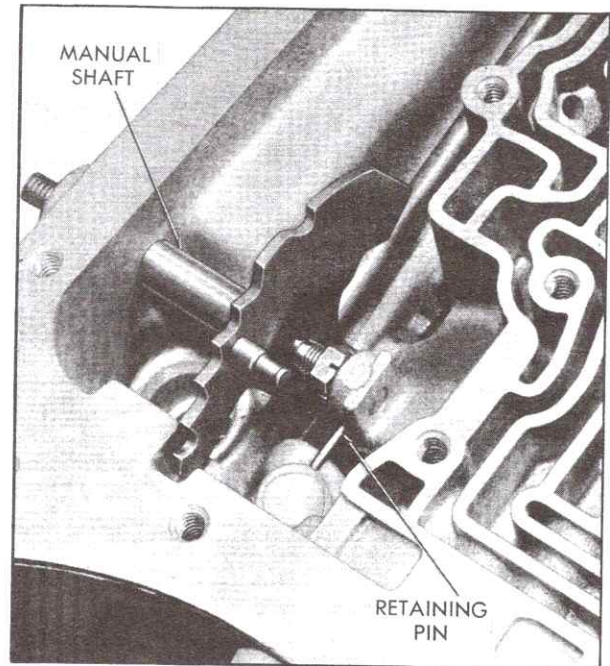

Fig. 7-99 Installing Manual Shaft Retaining Pin
7. Install retaining pin in case, indexing it with groove in manual shaft, Fig. 7-99.